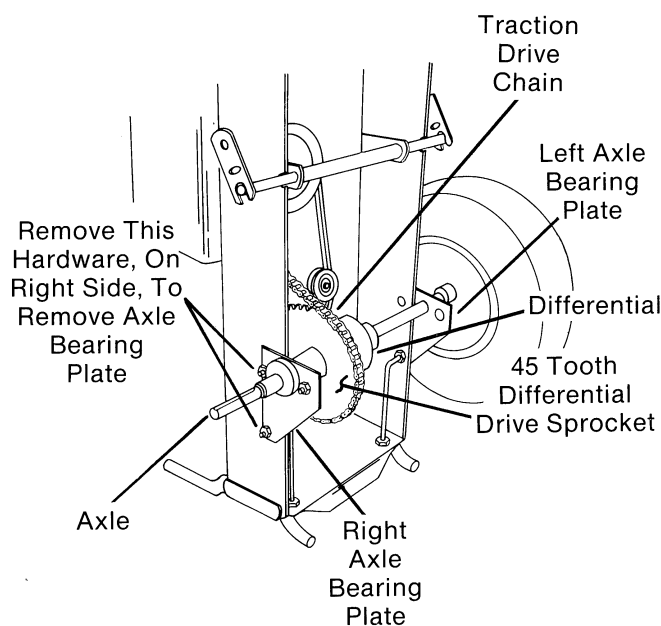

FIG. 25
- c. Wrap chain around 45 tooth differential drive sprocket and secure chain ends with a new master link. (Fig. 25)
2. Remove snap rings, wheels, square keys and axle spacers from both sides of rear axle. (Fig. 25)
3. Rotate rear wheels until master connecting link is accessible on 45 tooth differential drive sprocket. Remove master link and unwrap chain from around sprocket. (Fig. 25)
5. Remove two top nuts and carriage bolt at right side axle bearing plate and slide axle bearing plate off axle. (Fig. 25)